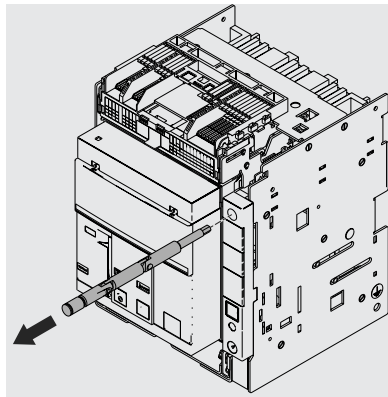

Figure 57
4. Extract the disconnection crank from its housing See Figure 57.